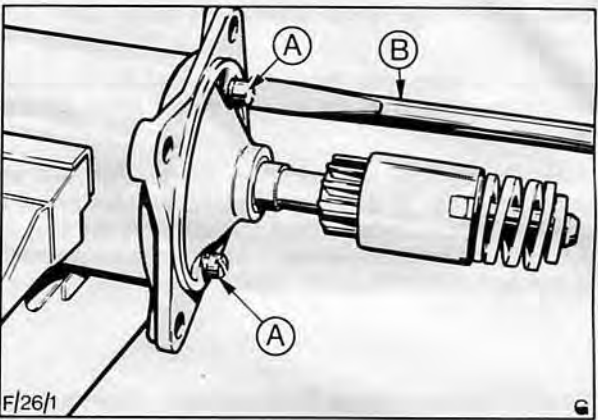

Fig. 19. Removing drive-end plate
1. Clamp starter motor in a vice fitted with protective soft jaws. Remove two fixing screws that hold drive-end plate to yoke, Fig. 19 Guide armature, drive-end plate and drive assembly clear of yoke.